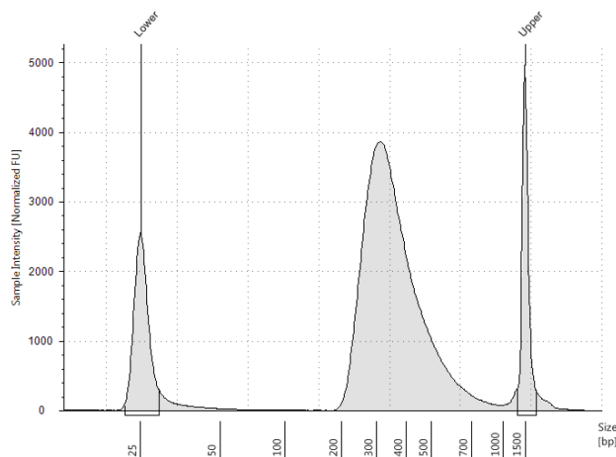
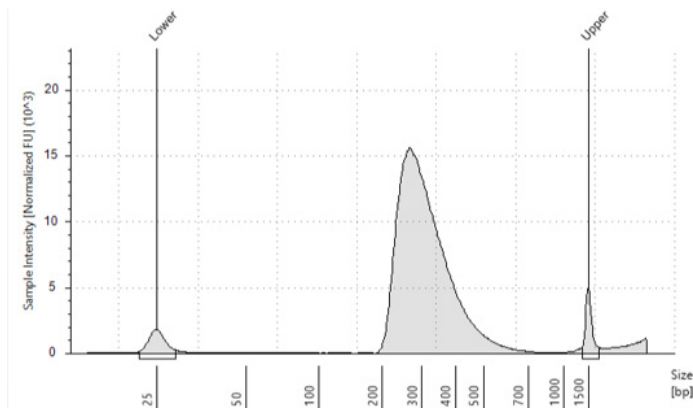
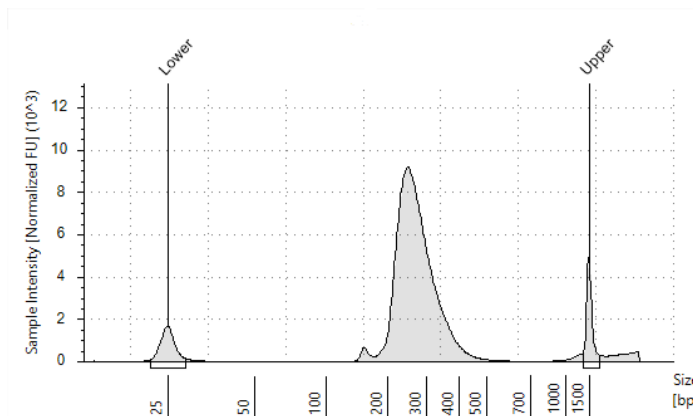

Figure 7 Pre-capture library prepared from a high-quality gDNA sample analyzed using a D1000 ScreenTape assay.
Figure 8 Pre-capture library prepared from a typical FFPE gDNA sample analyzed using a D1000 ScreenTape assay.
Figure 9 Pre-capture library prepared from a low-quality FFPE gDNA sample analyzed using a D1000 ScreenTape assay.
- 15 Verify that the electropherogram shows the expected DNA fragment size peak position (see Table 45 for guidelines). Sample electropherograms are shown in Figure 7 (library prepared from high-quality DNA), Figure 8 (library prepared from medium-quality FFPE DNA), and Figure 9 (library prepared from low-quality FFPE DNA).
The appearance of an additional low molecular weight peak indicates the presence of adaptor-dimers in the library. It is acceptable to proceed to target enrichment with library samples for which adaptor-dimers are observed in the electropherogram at low abundance, similar to that seen in the example electropherogram in Figure 9. See Troubleshooting information on page 162 for additional considerations.
Using manual preparation of the analytical sample plate, you can analyze the DNA samples on Agilent 2100 BioAnalyzer, Agilent 5200 Fragment Analyzer, or Agilent 4200/4150 TapeStation. Electropherograms obtained using one of these other analysis platforms are expected to show fragment size profiles similar to those shown for the Agilent 4200 TapeStation (see Figure 7 through Figure 9). Verify that the electropherogram shows the expected DNA fragment size peak position (see Table 45 for guidelines). Table 46 includes links to assay instruction.